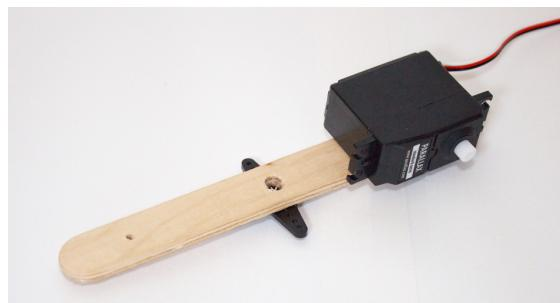

Figure 2-6 Elbow joint and arm segment
8. Press the servo to the stick set *on its side*, such that the axis is perpendicular to the end of the stick, as shown in Figure 2-6.